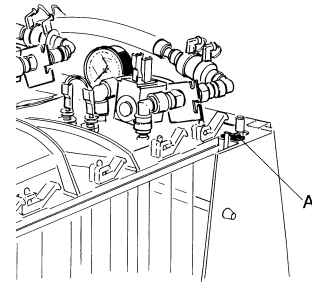

FIGURE 5
- Switch the machine's main switch to the ON position (1).
- Put the switch (A) into the ON position (1) see FIGURE 5, switch A. Controls the flow of the product in the bowls.